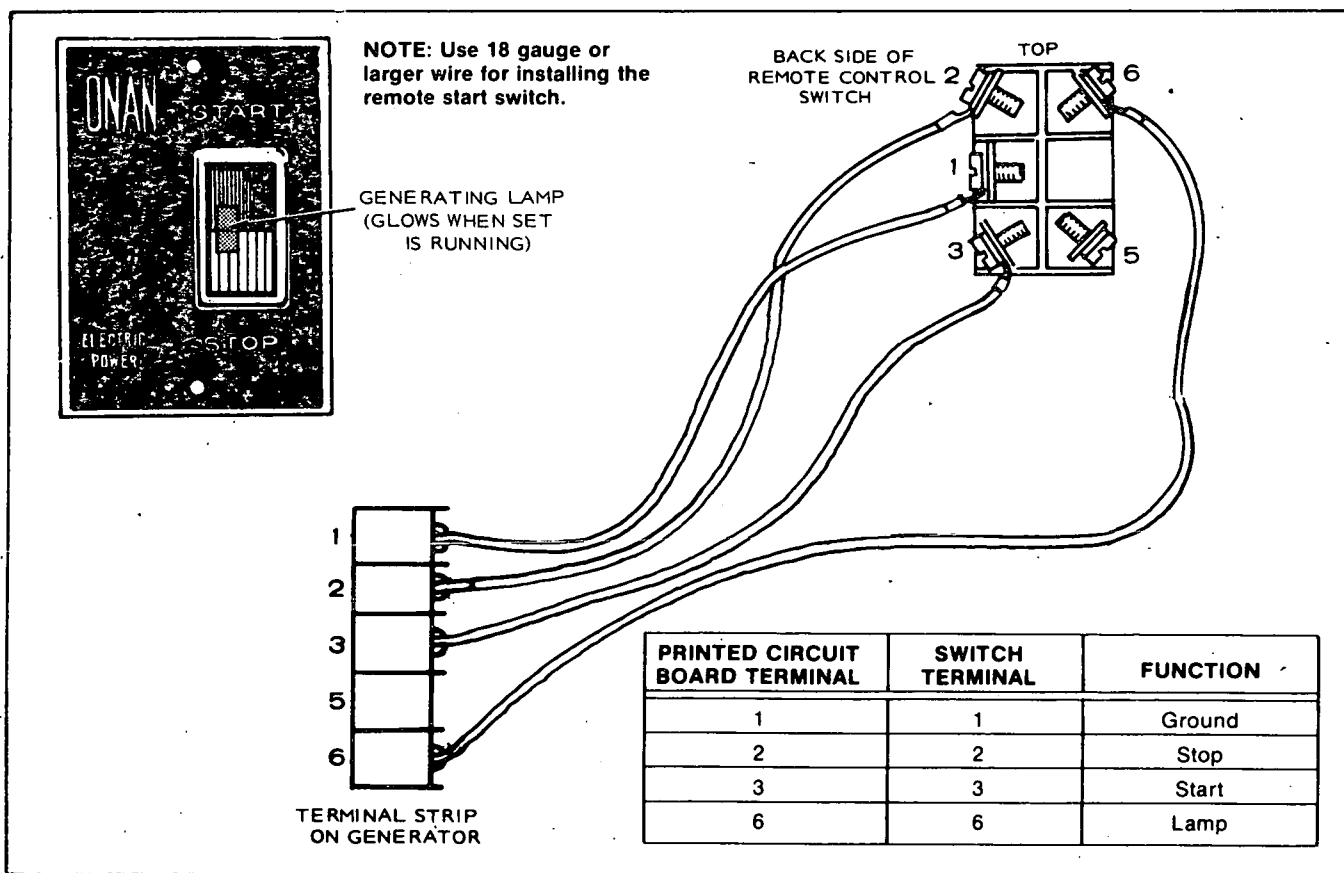

FIGURE 10. CONNECTING REMOTE CONTROL (300-0985)
2. Following national and local electrical codes and using four insulated wires of predetermined length (#18 or larger), connect remote switch to terminals on generator. See Figure 10.